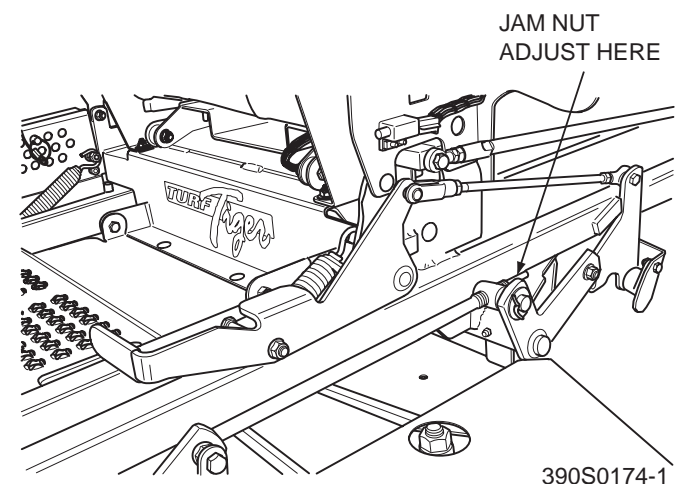

Figure 6-6. Cutter Deck Level Adjustment
1. Loosen the jam nut on both adjusting rods. (See Figure 6.6)
2. Using a wrench on the jam nut (See Figure 6.6) turn the adjusting rods until the proper pitch is obtained on both the RH and the LH side of the cutter deck. Tighten both jam nuts.